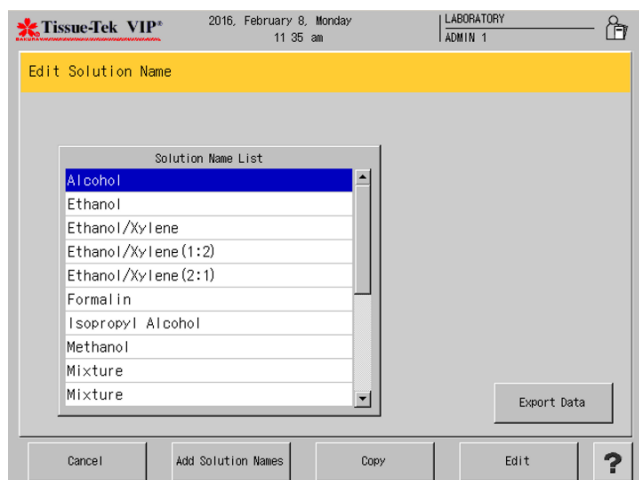

Figure 3-MM
- The Edit Solution Name screen appears (Figure 3-MM).